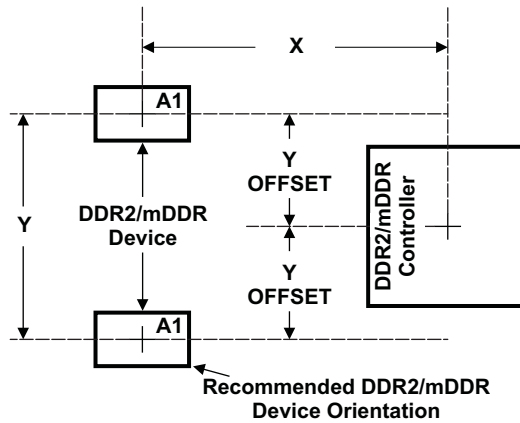

Figure 5-21. OMAPL138 and DDR2/mDDR Device Placement
Figure 5-20 shows the required placement for the device as well as the DDR2/mDDR devices. The dimensions for Figure 5-21 are defined in Table 5-30. The placement does not restrict the side of the PCB that the devices are mounted on. The ultimate purpose of the placement is to limit the maximum trace lengths and allow for proper routing space. For single-memory DDR2/mDDR systems, the second DDR2/mDDR device is omitted from the placement.
- (1) See Figure 5-21 for dimension definitions.
- (2) Measurements from center of device to center of DDR2/mDDR device.
- (3) For single memory systems it is recommended that Y Offset be as small as possible.
- (4) Non-DDR2/mDDR signals allowed within DDR2/mDDR keepout region provided they are separated from DDR2/mDDR routing layers by a ground plane.
- (5) w = PCB trace width as defined in Table 5-29.